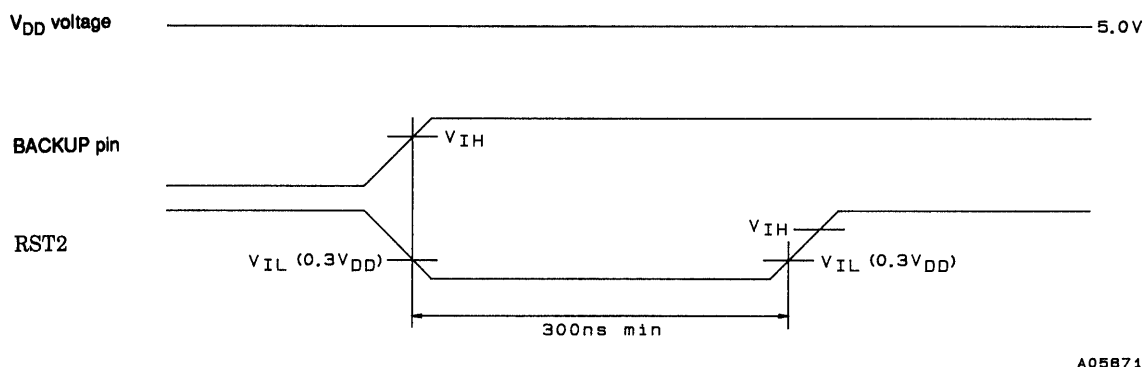

Figure 4
1. Setting the BACKUP pin low switches the LC80101M to backup mode. This is a mode in which oscillator and chip operation are stopped to reduce current drain. This pin must be set high for normal operation. Also note that a reset must be applied after the BACKUP pin is returned to high from low. (See Figure 4 on page 8.) The BACKUP pin must be connected to the LC80101M V_{DD} pin if backup mode is not used.